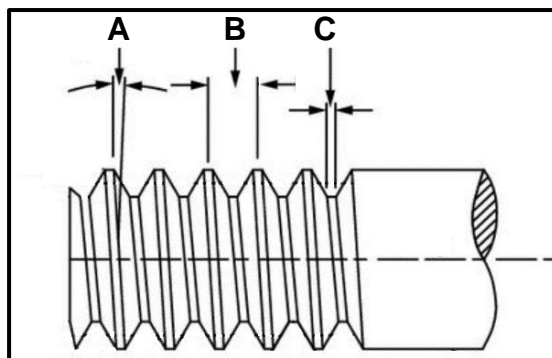

FIGURE 10.3
10.3 Label parts **A–C** of the V-screw thread shown in FIGURE 10.3 below.